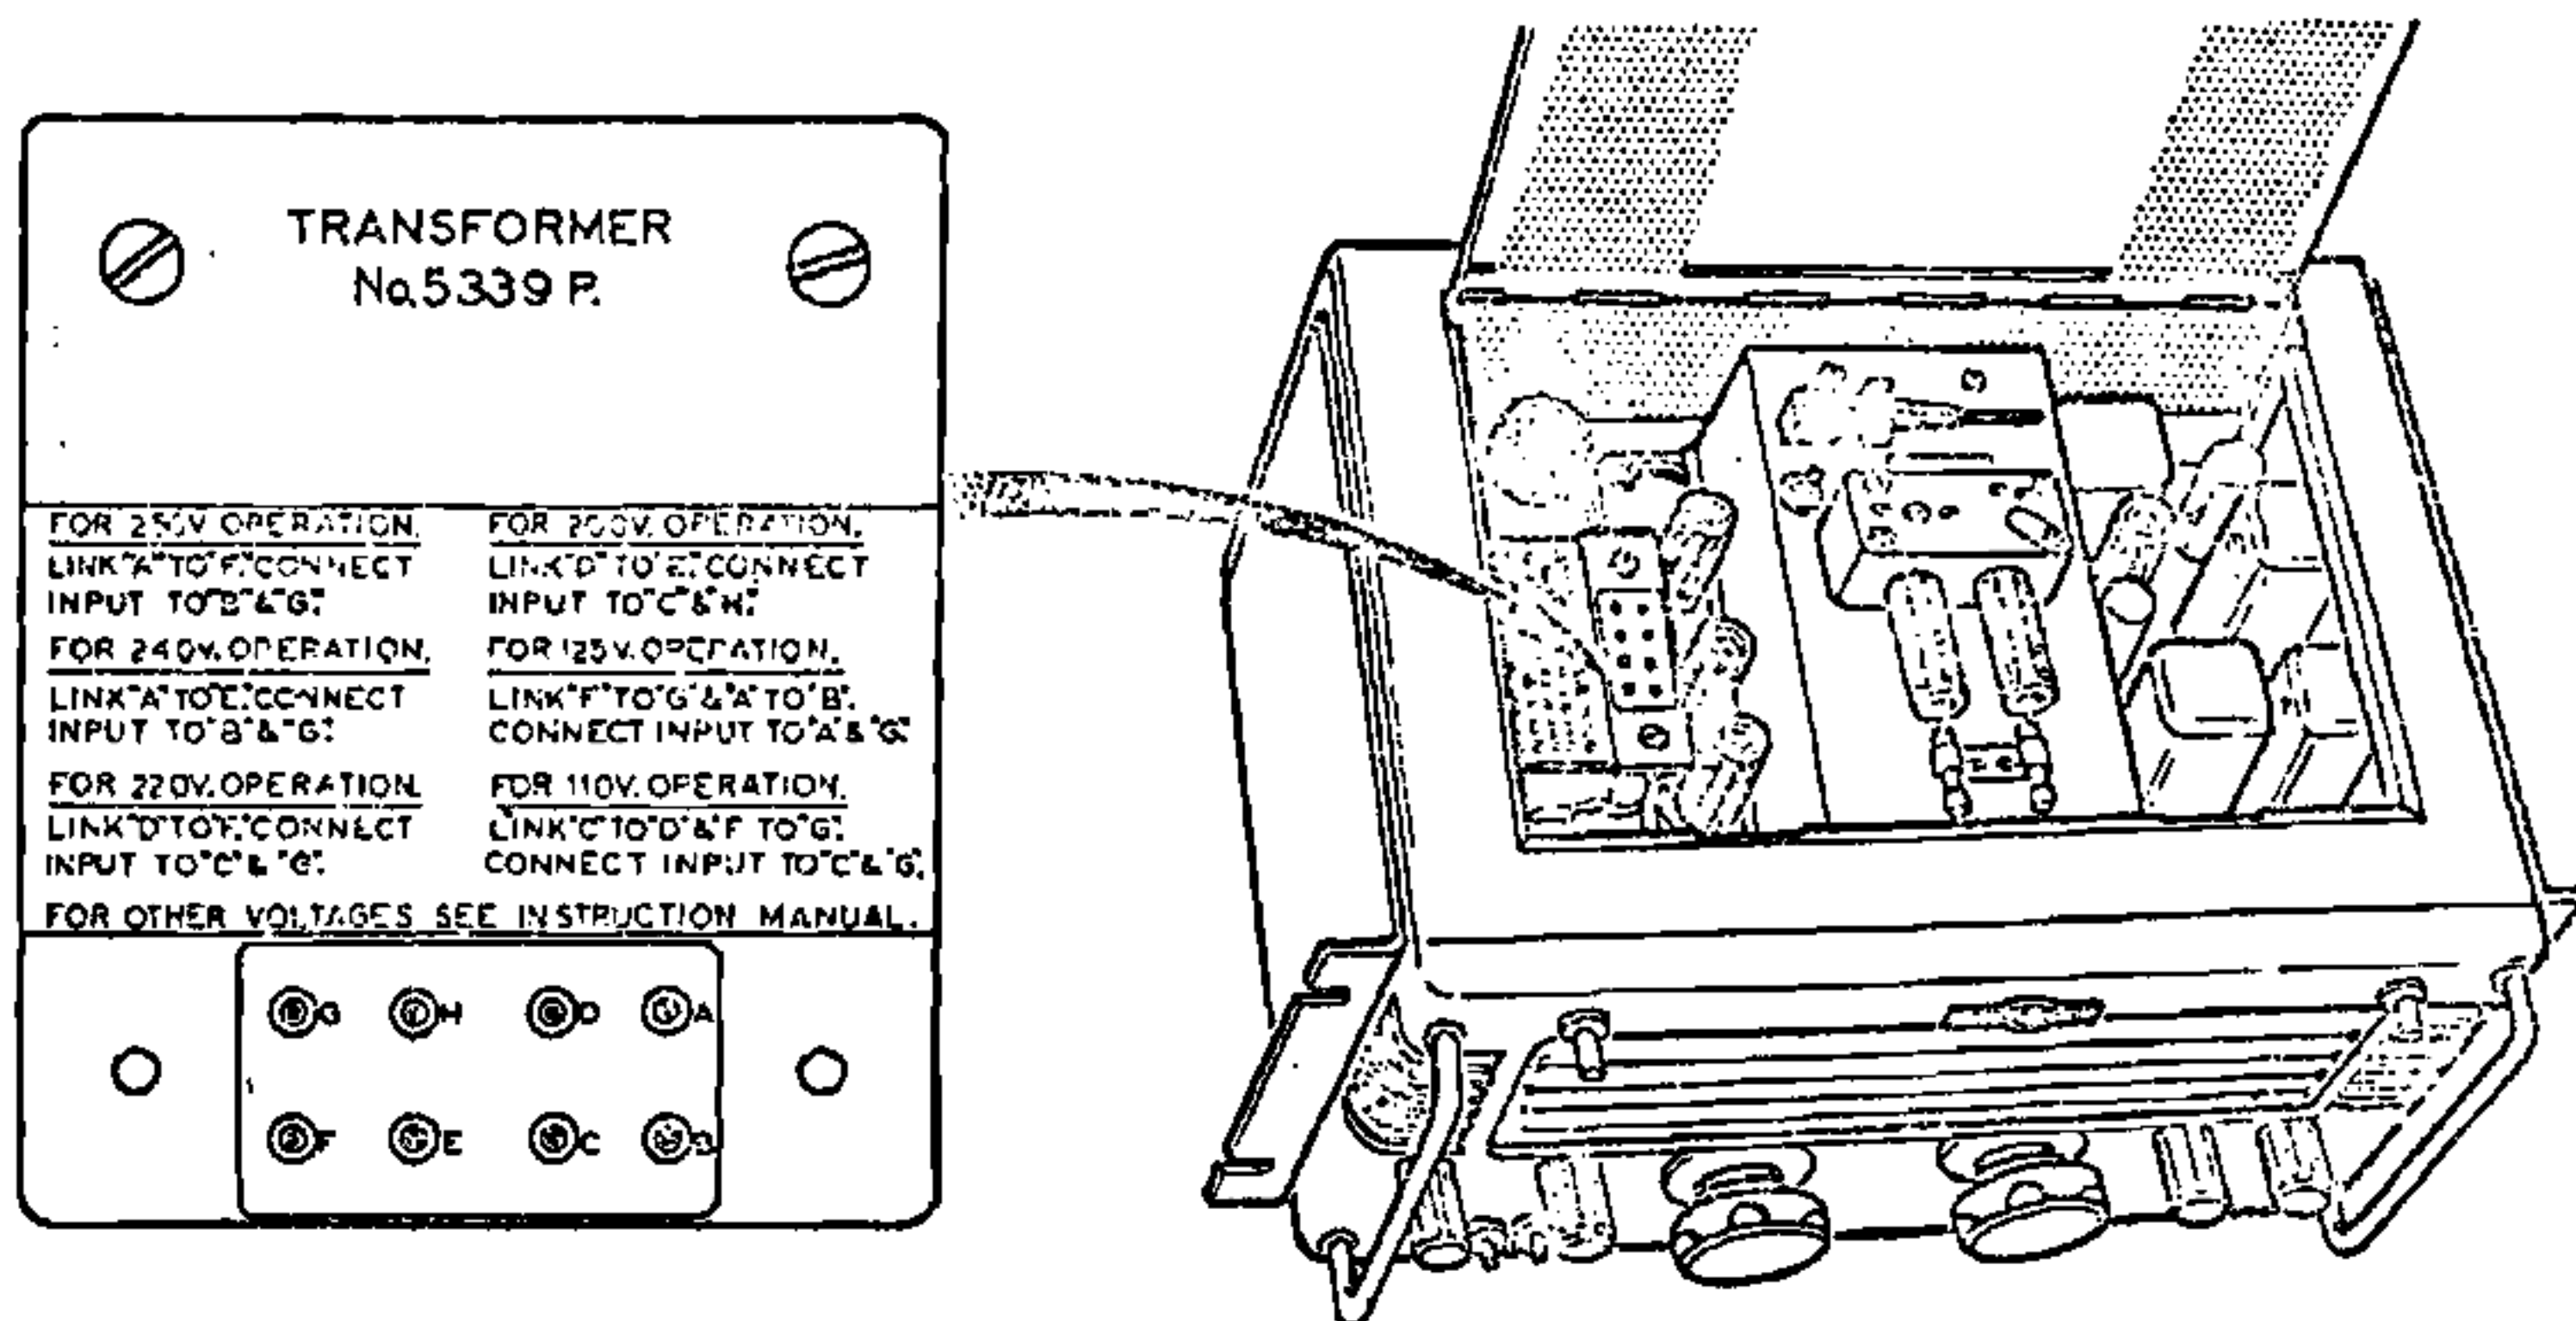

Fig. 4
- (1) With the supply disconnected, locate the voltage adjustment panel shown in Fig.4 and remove the transparent cover plate.